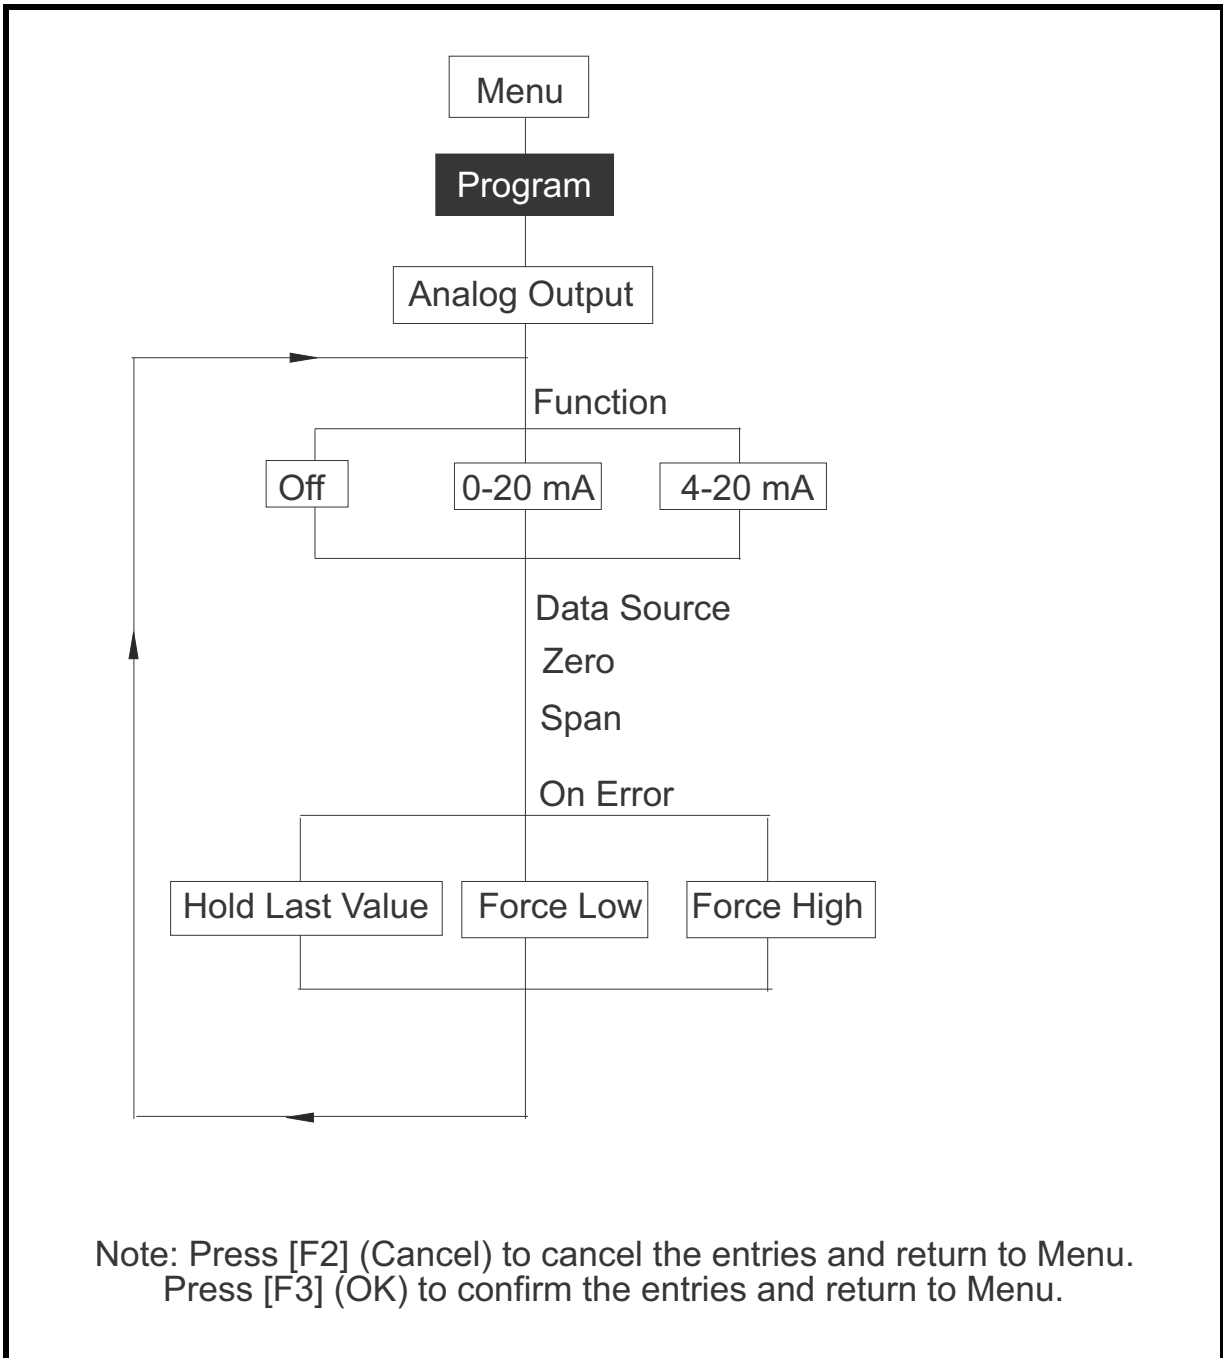

Figure 149: Analog Output Option
- Analog Output Option - Figure 149 on page 233